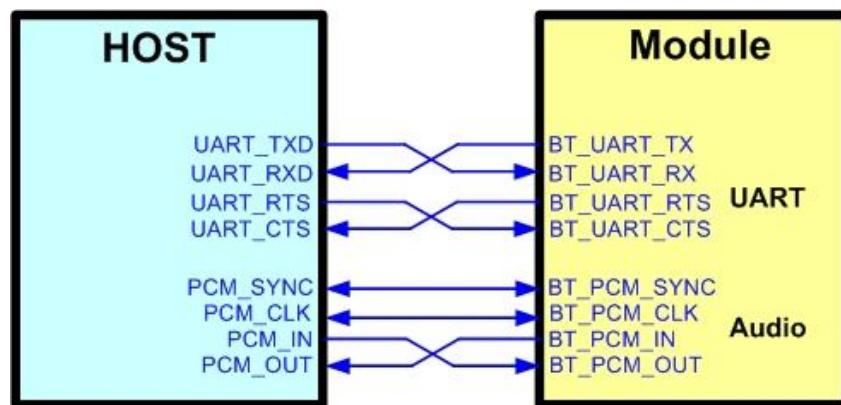

Figure5. Bluetooth verification connection interface to Host UART
- ❖ Refer to Figure5 UART pin definition connects the J16 interface of AP6398S2 evaluation board to Host UART control interface.